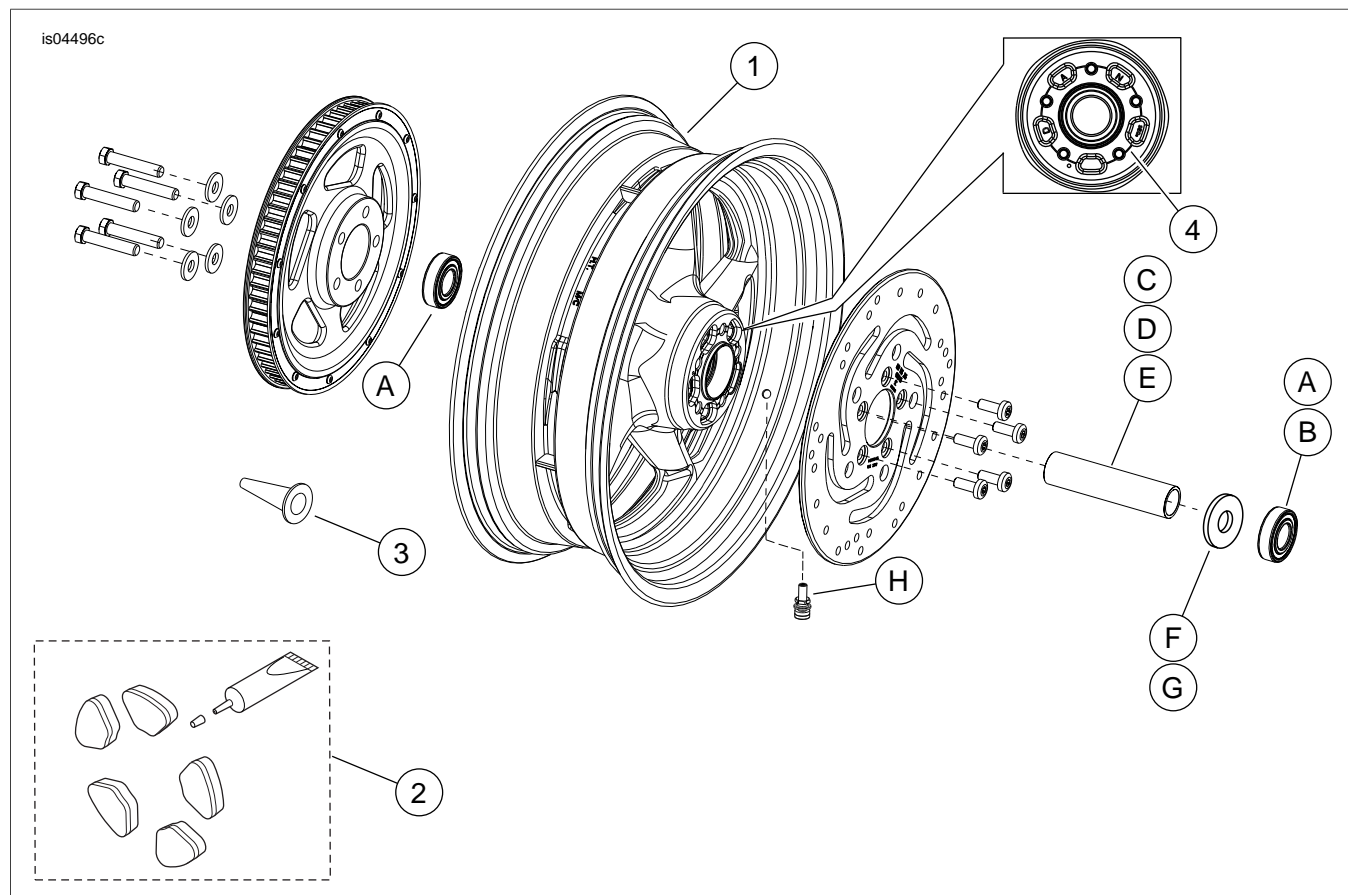

Figure 1. Service Parts: Rear Reaper Wheel
See Figure 1 and Table 2.
2. See Figure 1. Install valve stem assembly (H) on wheel following the instructions in the appropriate service manual.